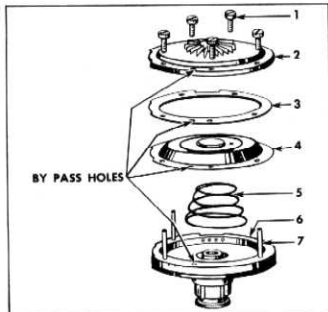

Fig. 18
14. Place spring retainer (2) with convex side of retainer in spring coil and spring hook engaged in slot of retainer. Compress spring until "C" washer (1) can be installed into groove at end of hydraulic plunger.
15. Place piston plate (6) on bench with collar down then insert guide pins J-5404 (7) in screw holes (fig. 18).
16. Center reaction spring (5) on plate with large coil against plate. Place a new diaphragm assembly (4) on top of reaction spring, centering small coil of spring in ring plate of the diaphragm assembly. On top of the diaphragm place a new gasket (3) and diaphragm cover (2).